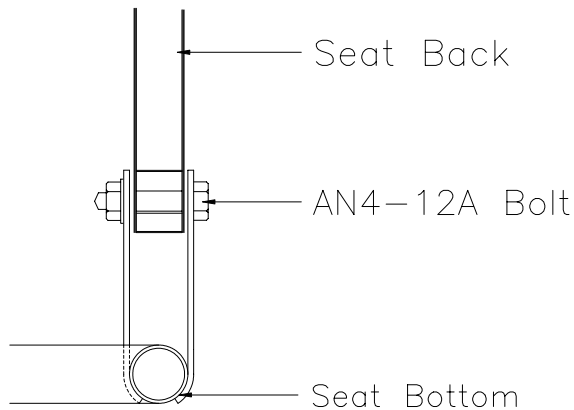

Figure 22.2.6
9) Attach the seat back to the bottom with AN4-12A bolts. Do not over tighten fiber nuts. Figure 22.2.6.